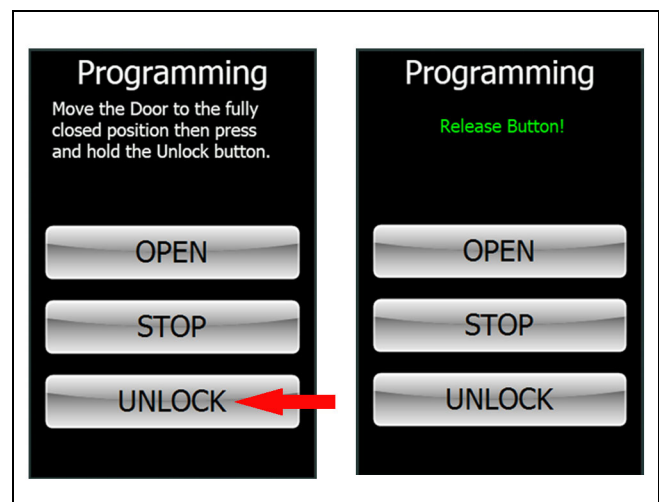

Figure 52
5. Move the door manually to the fully closed position. Press and hold the "UNLOCK" button until the touch screen shows "Release Button!" or red and blue lights blink rapidly (on non-touch screens). See Figure 52.